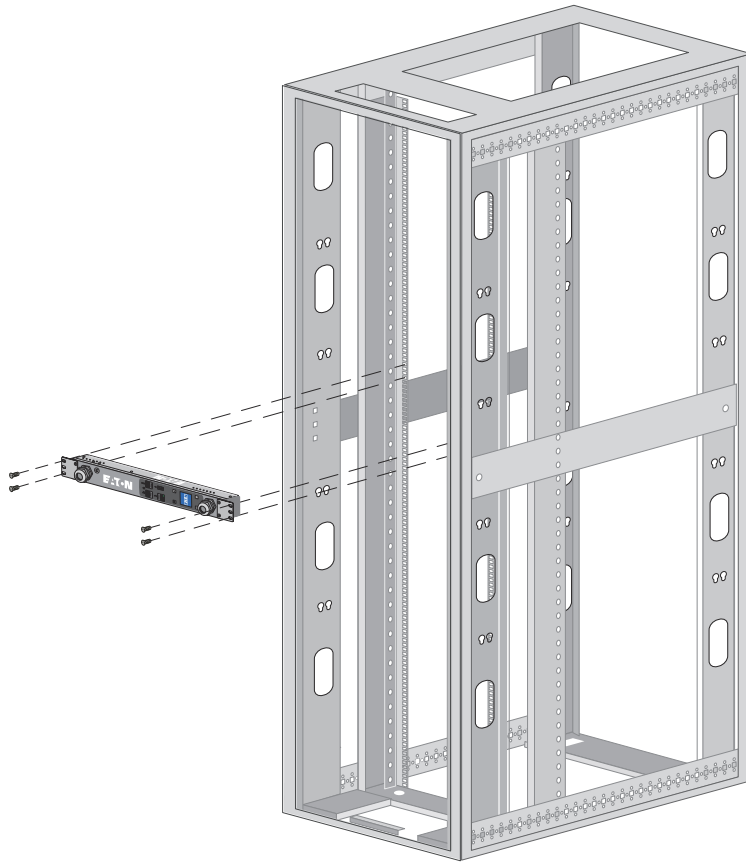

Figure 23. Installing Horizontal Models
3. **For all other racks.** Insert and tighten two M6 screws through the ears on each side of the ePDU (see Figure 23).